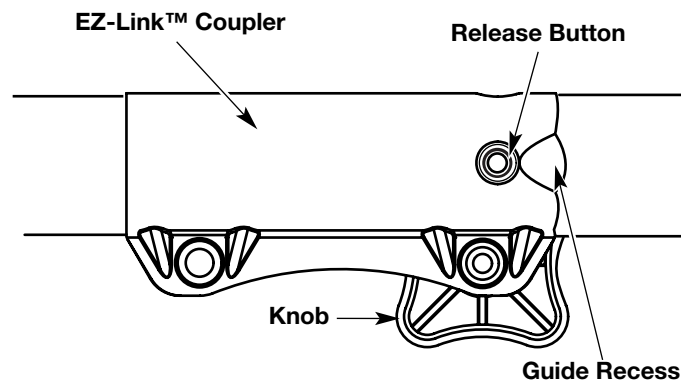

Fig. 9
1. Turn the knob counterclockwise to loosen (Fig. 9).
2. Press and hold the release button (Fig. 9).
1. Turn knob counterclockwise to loosen (Fig. 9).
**NOTE:** Aligning the release button with the guide recess will help installation (Fig. 9).